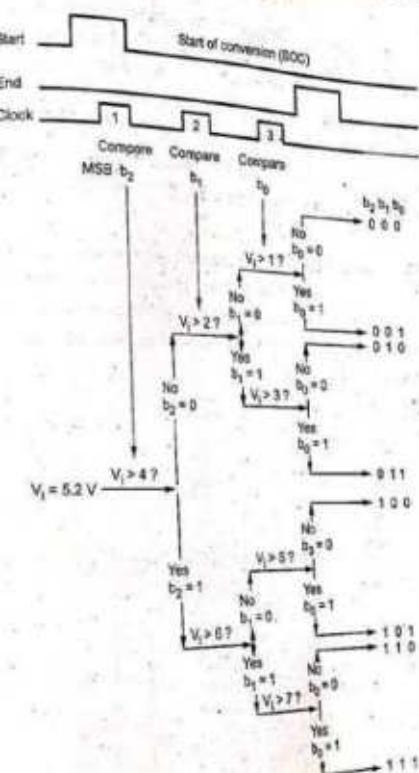

Fig. 6.8.4 Illustration of conversion process
- Fig. 6.8.4 illustrates the process we have just discussed. The dark lines in the Fig. 6.8.4 shows setting and resetting actions of bits for input voltage 5.2 V, on the basis of comparison.
- It can be seen from the Fig. 6.8.4 that one clock pulse is required for the successive approximation register to compare each bit. However an additional clock pulse is usually required to reset the register prior to performing a conversion. The time for one analog to digital conversion must depend on both the clock's period  $T$  and number of bits  $n$ . It is given as,